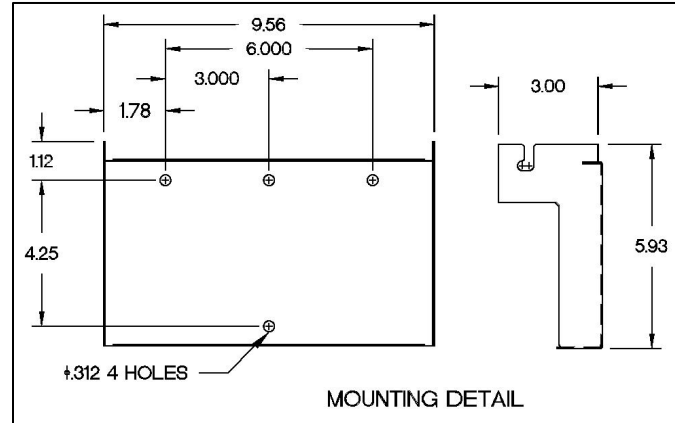

Figure 2
6. Mount cabinet directly to wall or use optional mounting plate MBF. (Figure 2)